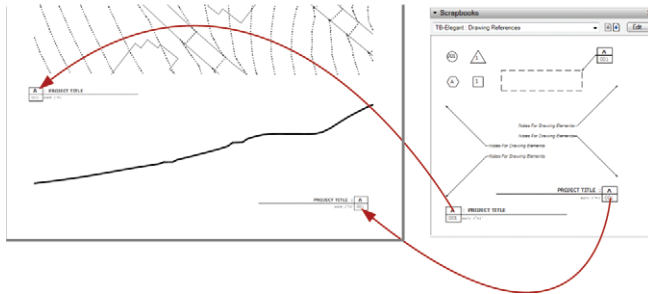

Figure 15.37 Add drawing titles.
2. Add drawing titles to the presentation. Using the Select tool, double-click in the scrapbooks to change the drawing title, drawing number, and scale (Figure 15.37).